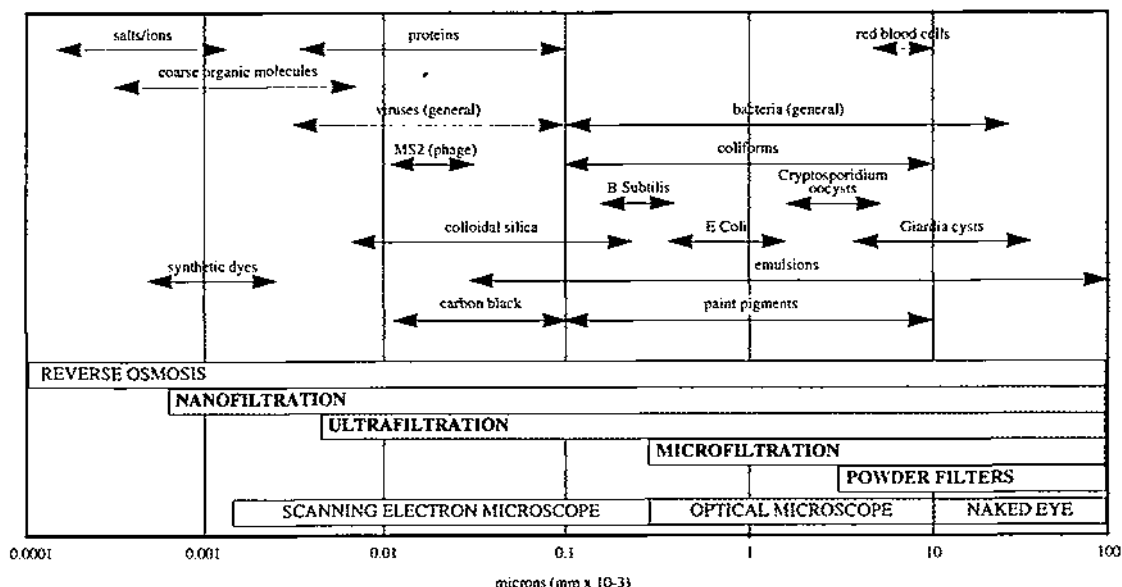

Figure 1. Membrane sizes.
**Membrane Pore Size.** Membranes are divided into four groups according to their pore size and thus usage. Figure 1 shows the range of membranes and the size of the contaminants they remove. The smaller the pore size the greater the pressure needed to drive the process. The flux of a membrane is a measure of how much product it yields for a given surface area of membrane over a stated period of time. Membranes with tighter pores remove more contaminants but require higher operating pressures and have